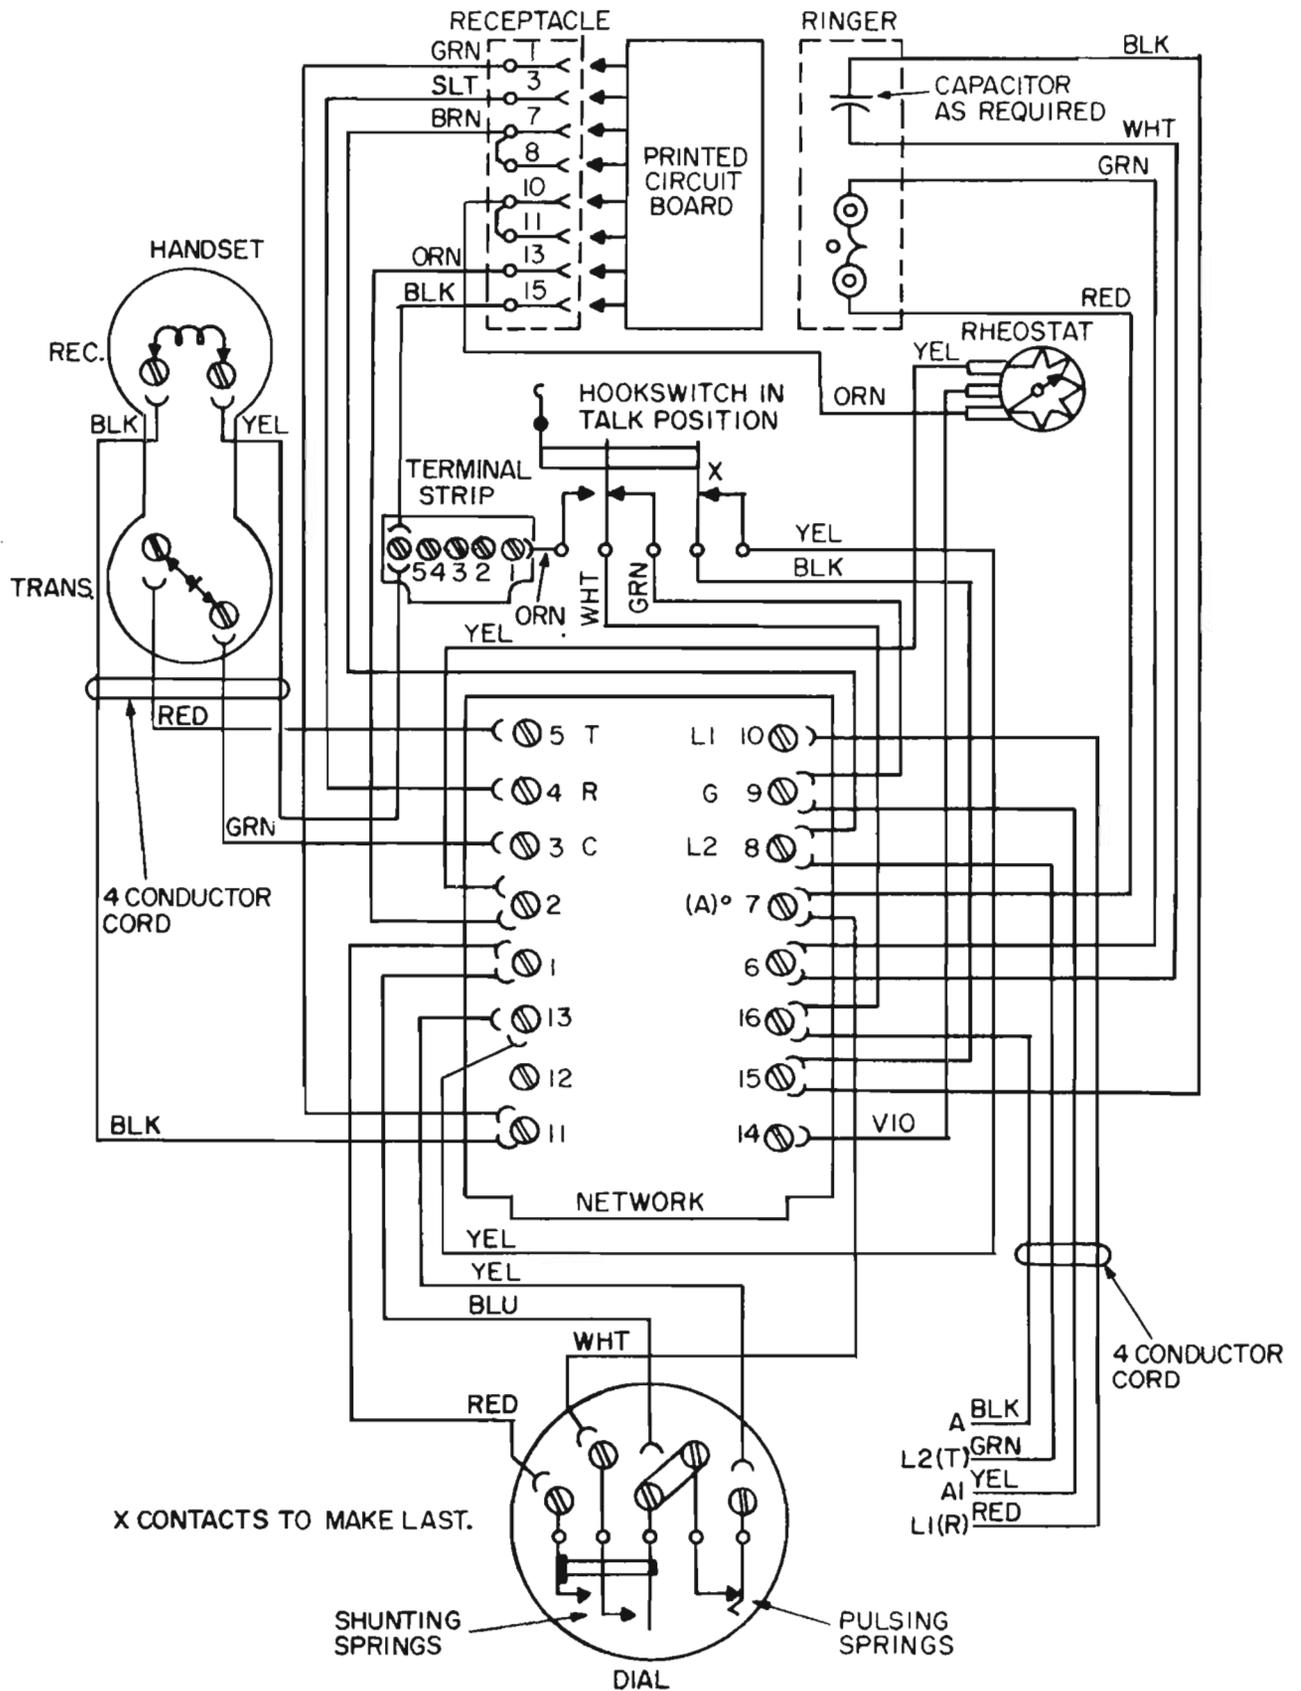

Figure 3. Wiring Diagram of Modified Type 80T Telephone Set Equipped With D-38368-A Network.
3.01 The wiring diagram of a Type 80T telephone set equipped with a D-38368-A network is shown in Figure 3 as modified for key system operation. This network contains a 1  $\mu$ fd. capacitor connected between terminals 12 and 13, so the former terminal is not available for interconnection of leads and no external capacitor is required for dial pulse contact spark suppression. An additional point of interconnection is provided by an auxiliary terminal strip which mounts on the tripod structure directly below the hookswitch actuating lever.